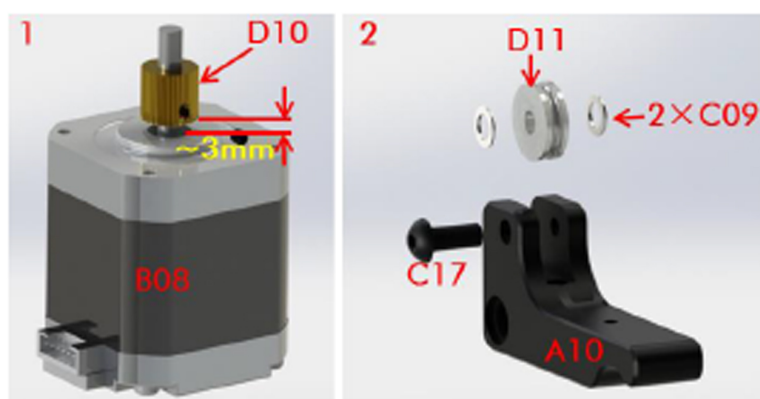

Fig. 22
Step 1. As shown in Fig. 22, firstly fix the extrusion wheel (D10) onto the shaft of the extrusion motor (B08). Make sure the fastening screw is facing the plane of the shaft. Notice the distance between the extrusion wheel and the motor is about 3mm. Next, install the extrusion bearing with 2 washers onto the bearing holder as shown on the right of Fig. 22.